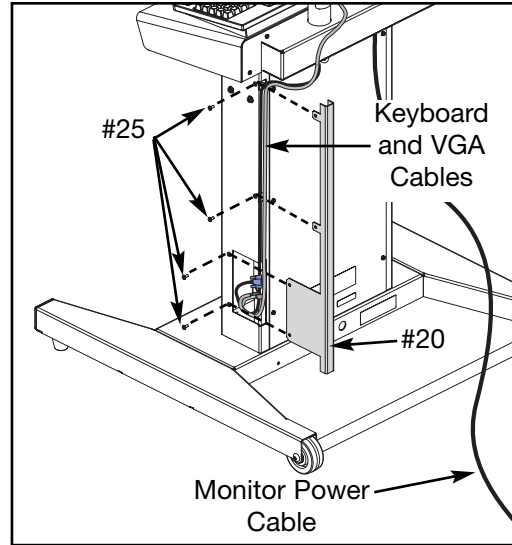

Figure 10
- A. Locate the cable access cover (#20) and four screws (#25). See Figure 10.
- B. Guide the keyboard and VGA cable into the channel in the cable access cover (#20). **NOTE:** The projector power cable will stay outside the cabinet. See Figure 10.
- C. Using the Phillips head screwdriver (#28) secure the cable access cover (#20) to the cabinet with four screws (#25). See Figure 10.
- F. Insert the green plug into the green receptacle and the purple plug into the purple receptacle. See Figure 10.
- G. Insert the external monitor VGA cable into the blue receptacle in the CPU. See Figure 10.